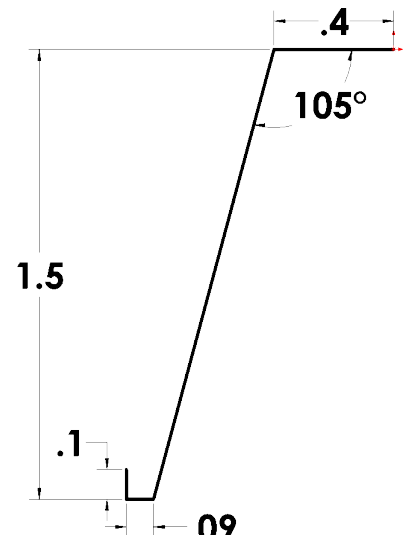

Fig. 3
Step 5. Click **Smart Dimension**  (S) on the Sketch toolbar.
Step 6. Add dimensions, **Fig. 3**.